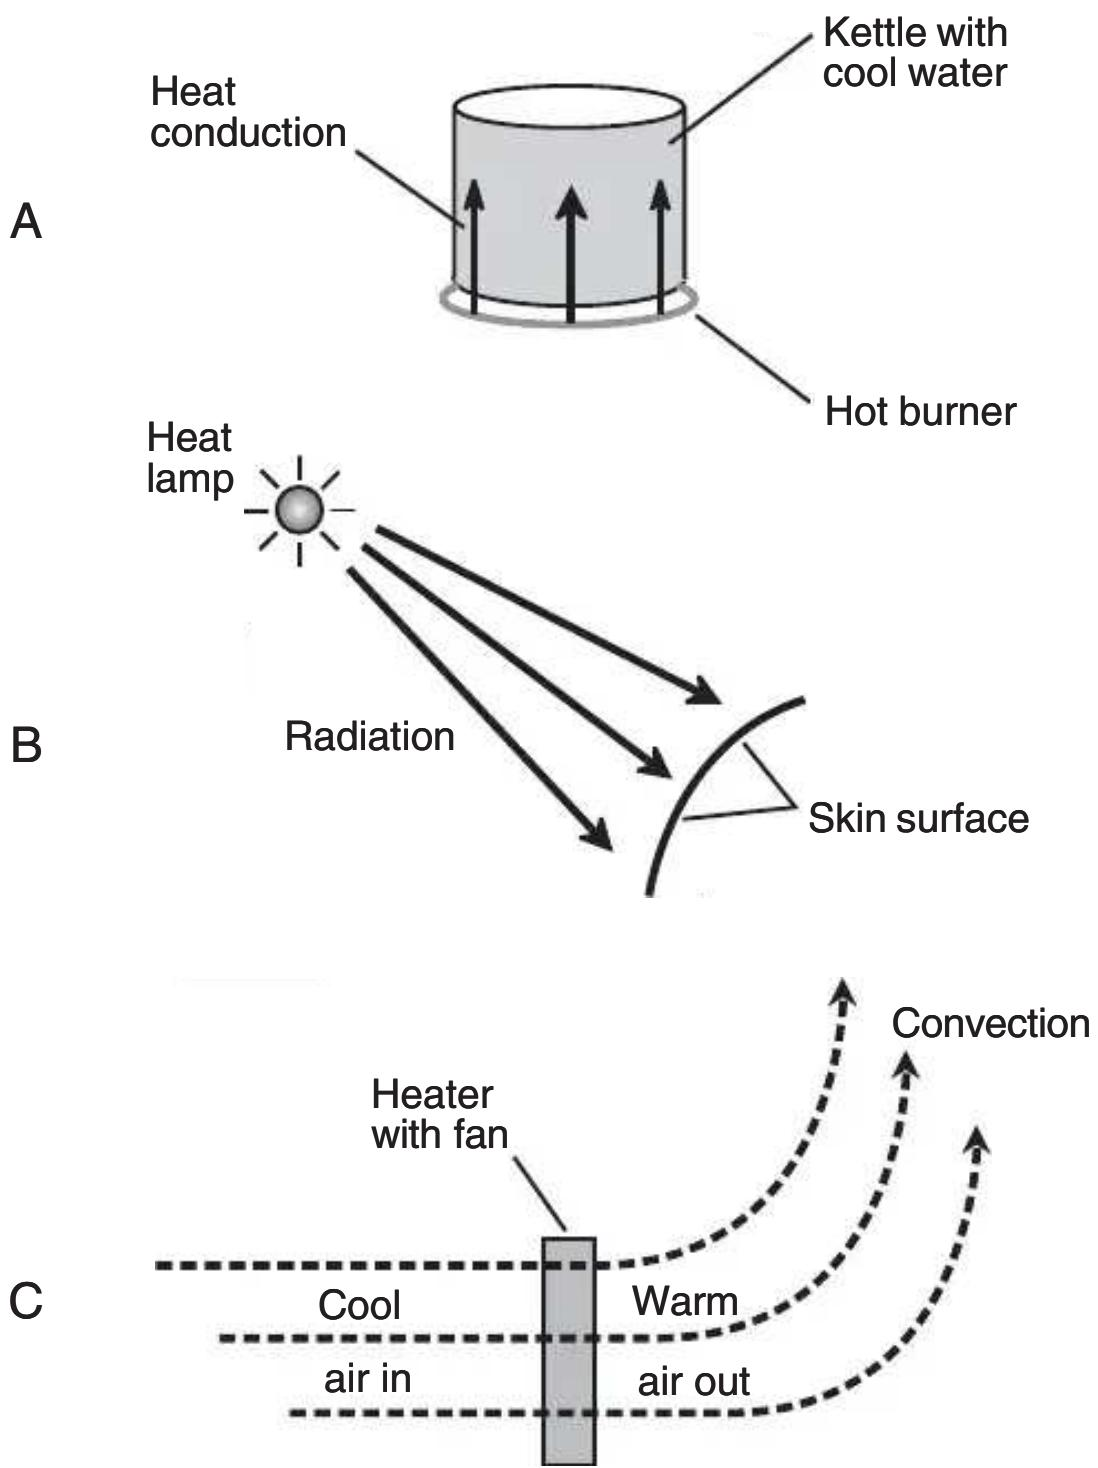

Figure 1-1
If you place a kettle of water on a hot stove, heat is transferred from the burner to the water. This is *conductive heat*, also called *conduction* (see Figure 1-1, part A). When an *infrared* (IR) lamp shines on your sore shoulder, energy is transferred to
your skin surface from the filament of the lamp. This is *radiative heat*, also called *radiation* (see Figure 1-1, part B). When a fan-type electric heater warms a room, air passes through the heating elements and is blown into the room, where the heated air rises and mixes with the rest of the air in the room. This is *convective heat*, also called *convection* (see Figure 1-1, part C).